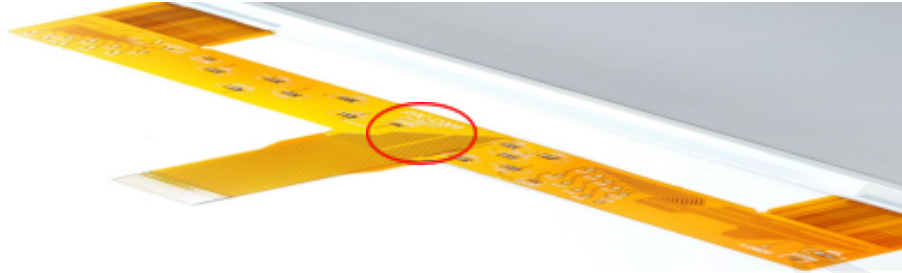

Figure 9. Screen printing from FPC
2) Connector P2 connects the e-paper from FPC, and the silk screen is FPC-009, as shown in Figure 9.